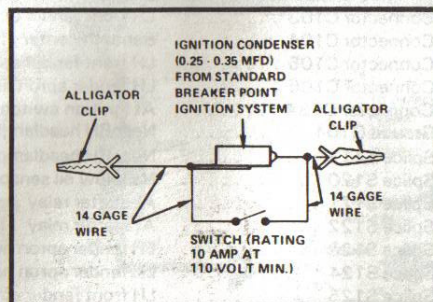

Figure 1— Ignition Test Jumper
Make up a test jumper as shown in Figure 1 below. It is important to use only this test jumper when making these checks. Solid wire jumpers will not work for the quick checks.
- Unplug connector at **TFI Module**. In the harness side of the connector, connect the special test jumper (Figure 1) between ground and the DG/Y D lead. Use a straight pin in connector socket hole to make contact.